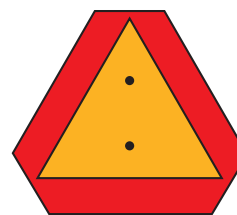

Figure 3-13: SMV Sign
- Transport during daylight hours whenever possible. Always use flashing warning lights, except where such use is prohibited by law. Make sure lights, reflectors and SMV emblem are clearly visible and operating. Remove any obstructions such as dirt, mud, stalks or residue that restricts view before transporting. **See Figure 3-13.**